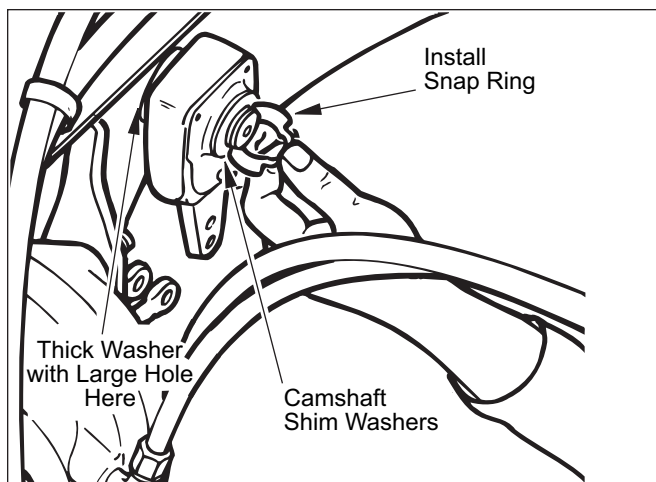

Figure 54. Shim Washer and Snap Ring Installation
2. Install brake adjuster inner washer on camshaft. Washer is identified by its 0.060" thickness and larger hole (see Figure 54).
5. Install camshaft shim washers and snap ring. Refer to Figure 54. Check and adjust camshaft axial play (see step 6).